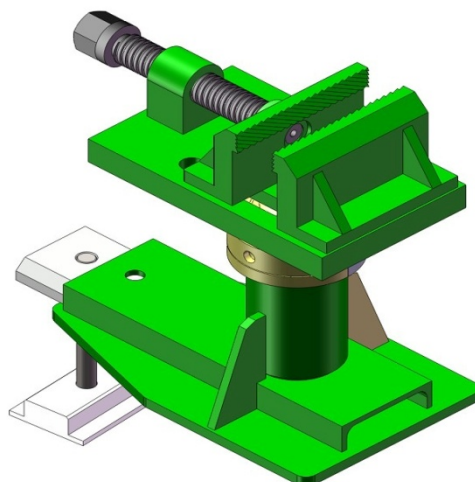

Figure 5.2
5.2 Auto fixing system: Include Main clamp basement, clamp head, bolts and nuts. See figure 5.2